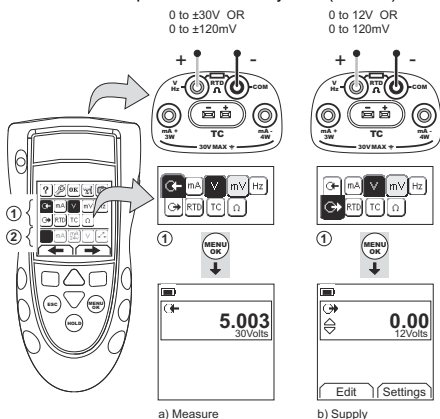
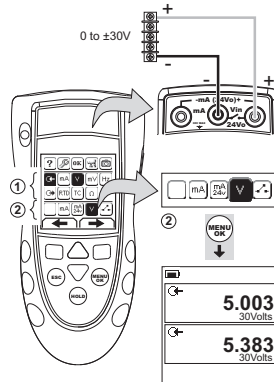

Figure 4: Example Configuration - To Measure/Supply Volts or mV (Area 1)
Figure 5: Example Configuration - To Measure Volts (Dual Function, Area 2)
1. Connect the instrument (Figure 4 & Figure 5) and, if necessary, adjust the Set Up (Table 1).